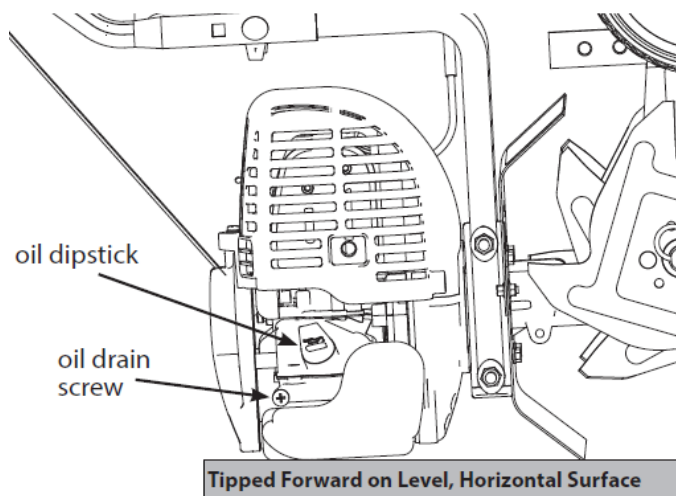

Figure 4
- Engine must be tipped forward with gas tank down when checking oil level or filling with oil (Figure 4). Failure to do so can result in overfilling the engine with oil which will impair the engine's performance.
1. Be sure the engine is located on a level surface before checking or refilling oil. Proper position for checking oil level or refilling oil is face down, with the gas tank of the Tiller down on a horizontal surface (**Figure 4**).